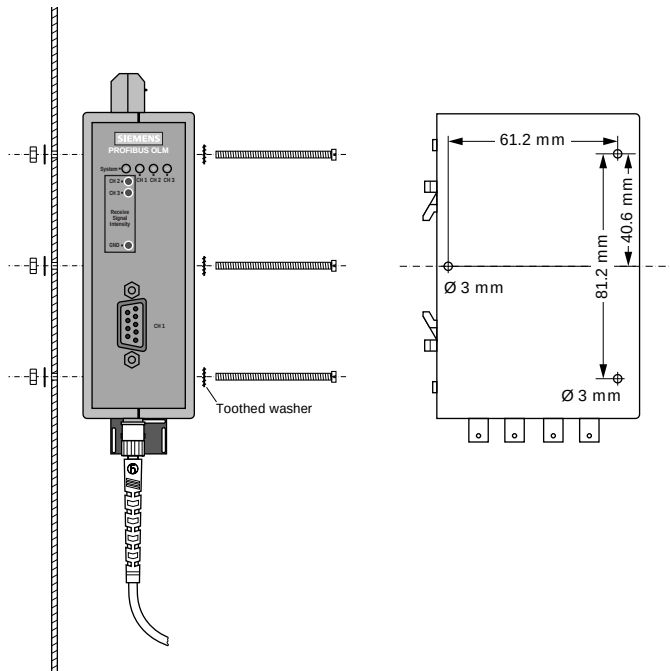

Fig. 8: Mounting a module on a mounting plate
- Drill three holes in the mounting plate corresponding to the drilling template in Fig. 8.